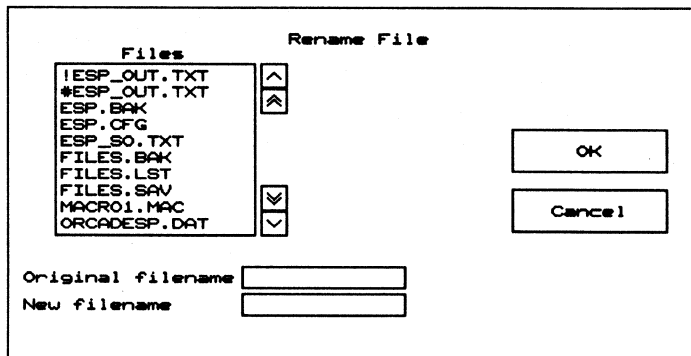

Figure 2-20. Rename File window.
1. Select **Rename File**. The window shown in figure 2-20 displays.